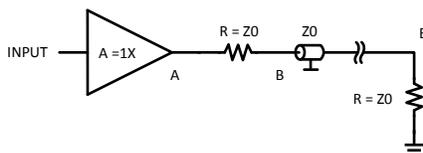
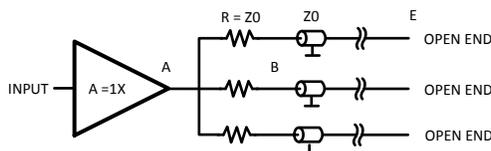
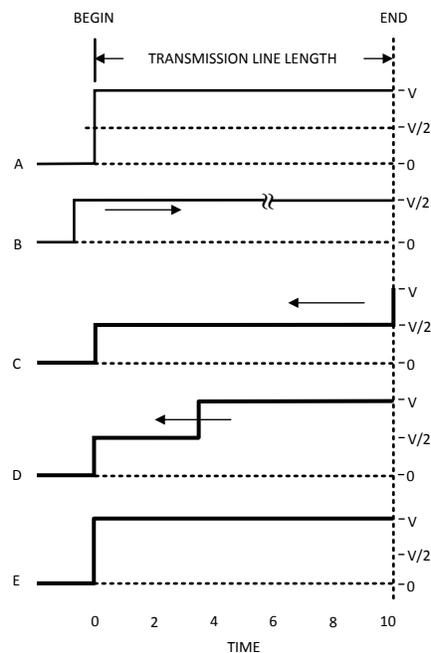

Figure 35.
Figure 37.
Figure 40.
- Use one buffer to drive one transmission line (see Figure 35)
- Use one buffer to drive several transmission lines each driving a different receiver. (see Figure 37)
In most cases, it is unrealistic to think that we can place a driver or buffer so close to the load that we don't need a transmission line to transport the signal. The pcb trace length between a driver and the load may affect operation depending upon the operating frequency. Sometimes it is possible to do measurements by connecting the DUT directly to the analyzer. As frequencies become higher the short lines from the DUT to the analyzer become long lines. When this happens there is a need to use transmission lines. The next point to examine is what happens when the load is connected to the transmission line. When driving a load, it is important to match the line and load impedance, otherwise reflections will occur and this phenomena will distort the signal. If a transient is applied at $T = 0$ (Figure 40, trace A) the resultant waveform may be observed at the start point of the transmission line. At this point (begin) on the transmission line the voltage increases to (V) and the wave front travels along the transmission line and arrives at the load at $T = 10$. At any point across along the line $I = V/Z_0$, where Z_0 is the impedance of the transmission line. For an applied transient of 2V with $Z_0 = 50\Omega$ the current from the buffer output stage is 40mA. Many vintage op amps cannot deliver this level of current because of an output current limitation of about 20mA or even less. At $T = 10$ the wave front arrives at the load. Since the load is perfectly matched to the transmission line all of the current traveling across the line will be absorbed and there will be no reflections. In this case source and load voltages are exactly the same. When the load and the transmission line have unequal values of impedance a different situation results. Remember there is another basic which says that energy cannot be lost. The power in the transmission line is $P = V^2/R$. In our example the total power is $2^2/50 = 80\text{mW}$. Assume a load of 75Ω . In that case a power of 80mW arrives at the 75Ω load and causes a voltage of the proper amplitude to maintain the incoming power.
Many applications, such as video, use a series resistance between the driver and the transmission line (see Figure 35). In this case the transmission line is terminated with the characteristic impedance at both ends of the line. See Figure 40, trace B. The voltage traveling through the transmission line is half the voltage seen at the output of the buffer, because the series resistor in combination with Z_0 forms a two-to-one voltage divider. The result is a loss of 6dB. For video applications, amplifier gain is set to 2 in order to realize an overall gain of 1. Many operational amplifiers have a relatively flat frequency response when set to a gain of two compared to unity gain. In trace B it is seen that, if the voltage reaches the end of the transmission line, the line is perfectly matched and no reflections will occur. The end point voltage stays at half the output voltage of the opamp or buffer.
Another way to reach several points via a transmission line is to start several lines from one buffer output (see Figure 37). This is possible only if the output can deliver the needed current into the sum of all transmission lines. As can be seen in this figure there is a series termination used at the beginning of the transmission line and the end of the line has no termination. This means that only the signal at the endpoint is usable because at all other points the reflected signal will cause distortion over the line. Only at the endpoint will the measured signal be the same as at the startpoint. Referring to Figure 40, trace C, the signal at the beginning of the line has a value of $V/2$ and at $T = 0$ this voltage starts traveling towards the end of the transmission line. Once at the endpoint the line has no termination and 100% reflection will occur. At $T = 10$ the reflection causes the signal to jump to $2V$ and to start traveling back along the line to the buffer (see Figure 40, trace D). Once the wavefront reaches the series termination resistor, provided the termination value is Z_0 , the wavefront undergoes total absorption by the termination. This is only true if the output impedance of the buffer/driver is low in comparison to the characteristic impedance Z_0 . At this moment the voltage in the whole transmission line has the nominal value of $2V$ (see Figure 40, trace E). If the three transmission lines each have a different length the particular point in time at which the voltage at the series termination resistor jumps to $2V$ is different for each case. However, this transient is not transferred to the other lines because the output of the buffer is low and this transient is highly attenuated by the combination of the termination resistor and the output impedance of the buffer. A simple calculation illustrates the point. Assume that the output impedance is 5Ω . For the frequency of interest the attenuation is $V_B/V_A = 55/5 = 11$, where A and B are the points in Figure 37. In this case the voltage caused by the reflection is $2/11 = 0.18V$. This voltage is transferred to the remaining transmission lines in sequence and following the same rules as before this voltage is seen at the end points of those lines. The lower the output resistance the higher the decoupling between the different lines. Furthermore one can see that at the endpoint of these transmission lines there is a normal transient equal to the original transient at the beginning point. However at all other points of the transmission line there is a step voltage at different distances from the startpoint depending at what point this is measured (see Figure 40, trace D).